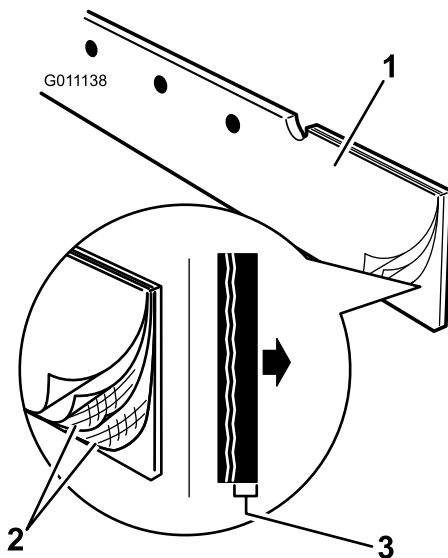

Figure 4
6. Position the wiper so that the rubber edge is forward and the fiber-reinforced part of the cross section is to the rear (Figure 4).